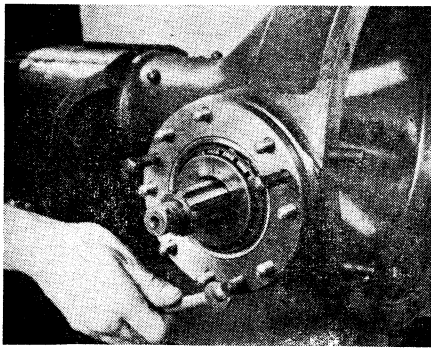

Fig. 99 Remove pinion and cage, using puller screws in holes provided
4. Remove pinion and cage assembly, using puller screws in holes provided, Fig. 99. Driving pinion from inner end with a drift will damage the bearing lock ring groove.